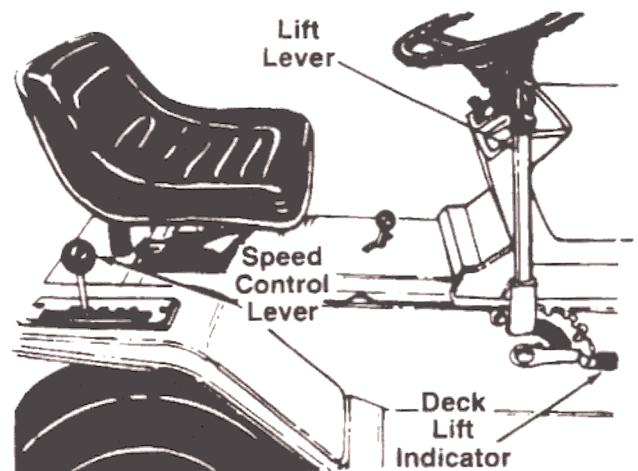

FIGURE 10.
The speed control lever allows you to regulate the ground speed of the lawn tractor. See figure 10. To select the ground speed, depress clutch pedal. Push speed control lever outward and move backward to slow lawn tractor, move forward to increase speed. When desired speed has been obtained, release lever in that position. Whenever clutch is engaged, unit will automatically go to the pre-set speed.
NOTE: The lift lever **must** be in the disengaged position when starting the engine, when shifting into reverse and if the operator leaves the seat. See figure 10.
The deck lift indicator marks the position being used for the lift lever. Select the lift lever position desired, press the indicator lever outward, move it to the position immediately below the lift lever and release the indicator lever. See figure 10.
3. Place the lift lever in the DISENGAGED position. See figure 10.